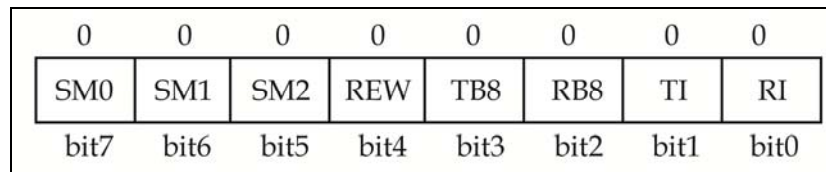

Fig. 1.8.4(a)
4. Fig. 1.8.4(a) shows the bits arrangement of SCON SFR.